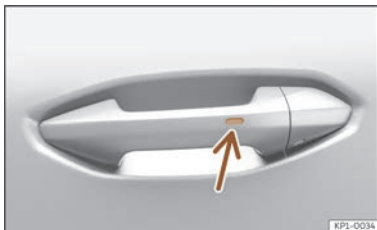

Fig. 88 Door handle: sensor surface.
- **OR:** using the Keyless Access system (only locking): Press and hold the locking sensor surface >>> **Fig. 88** (arrow) on the door handle for several seconds to close the windows and the sunroof. If you stop touching the sensing surface, the locking function is interrupted.
Press and hold the locking sensor surface >>> **Fig. 88** (arrow) on the door handle to close the sunroof. If you stop touching the sensing surface, the locking function is interrupted.